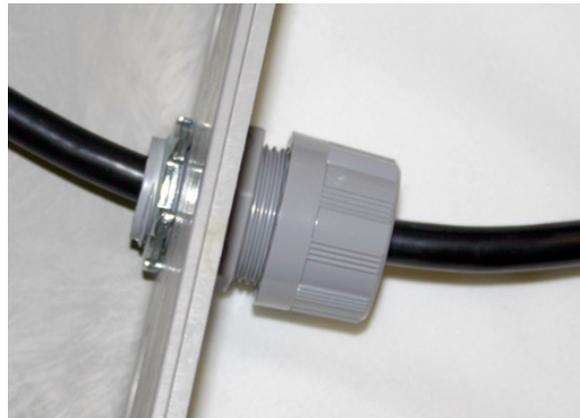

Figure 2-10 Position and secure the cable
7. Tighten the cord grip sealing nut (Figure 2-10).